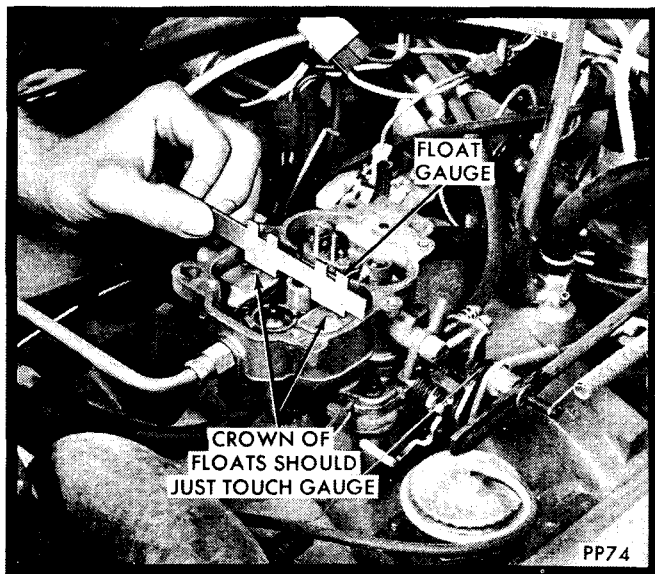

Fig. 3—Checking Float Setting
(14) Firmly seat the float pin retainer by hand while measuring height. The measurement from the surface of the fuel bowl to the crown of each float at center should be as indicated in specifications. If adjustment is necessary, hold the floats on the bottom of the bowl and bend the float lip toward or away from the needle (Fig. 3).